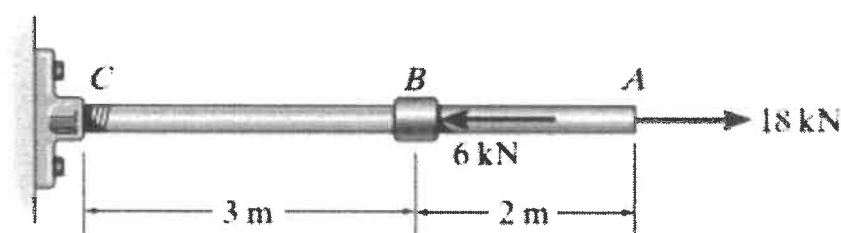

Figure 15: Assembly Rod
*Refer Below - Figure 15 : Assembly Rod .*